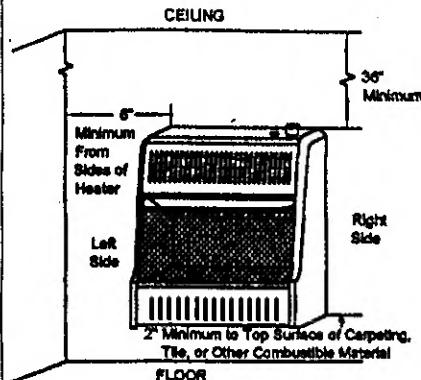

Figure 4-Mounting clearances as Viewed From Front of Heater
**WARNING:** Maintain the minimum clearances shown in Figure 4. If you can, provide greater clearances from floor, ceiling and joining wall.